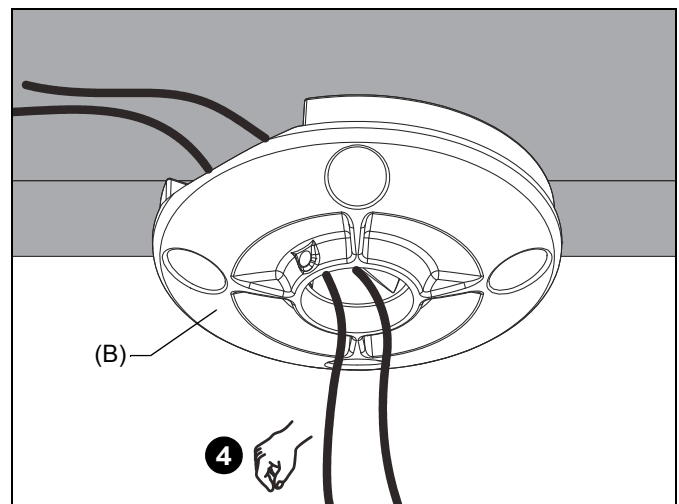

Figure 3
4. Route cables through channel in ceiling plate (B). (See Figure 3)